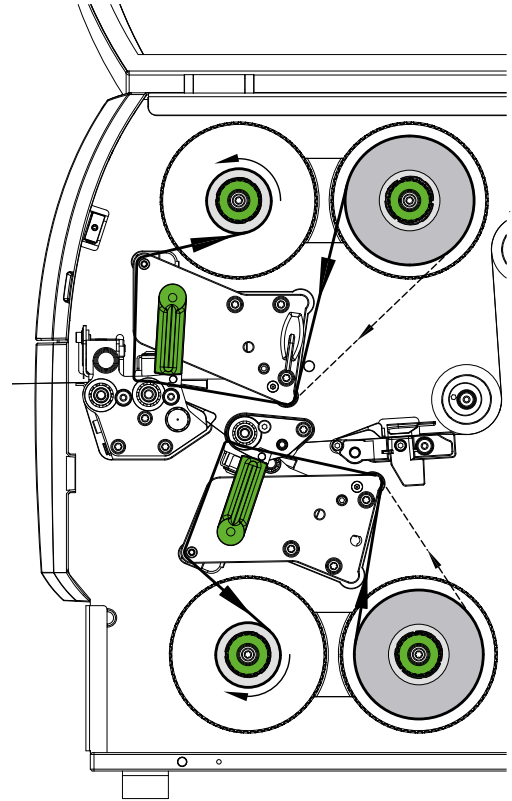

Figure 19 Transfer ribbon feed path
6. Slide suitable transfer ribbon core (4) onto the transfer ribbon take-up hub (5). Position and secure it in the same way like the supply roll.
7. Guide transfer ribbon through the print unit as shown in Figure 19.
8. Secure starting end of transfer ribbon to middle of the transfer ribbon core (4) with adhesive tape. Ensure counterclockwise rotation direction of the transfer ribbon take-up hub.
9. Turn transfer ribbon take-up hub (5) counterclockwise to smooth out the feed path of the transfer ribbon.
10. Turn lever (6) clockwise to lock the printhead.
11. Open the flap (8) and load transfer ribbon to the lower print unit (7) in a similar way. All previous statements of direction apply contrariwise excepting the turning of the knobs.